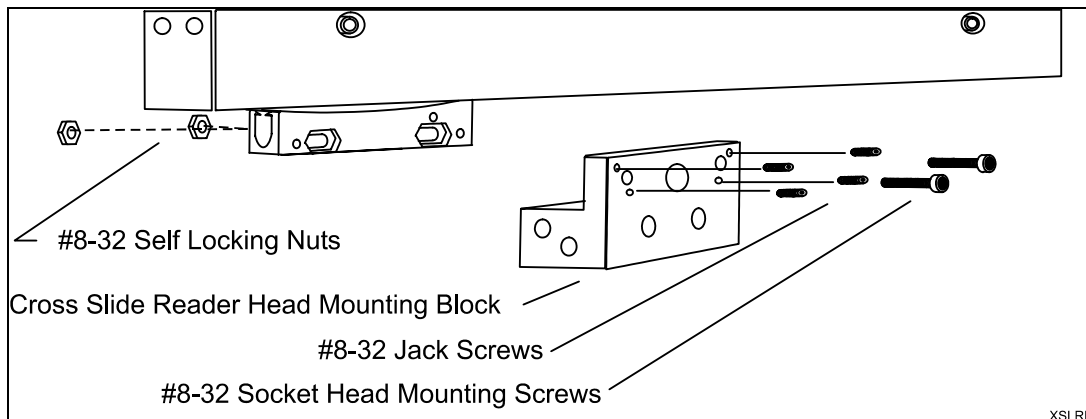

Figure 5, Cross Slide Reader Head Mounting Bracket
1. Refer to **Figure 5, Cross Slide Reader Head Mounting Bracket**. Mount the reader head bracket to the carriage (or a spacer block) using the 1/4 in. cap screws provided.